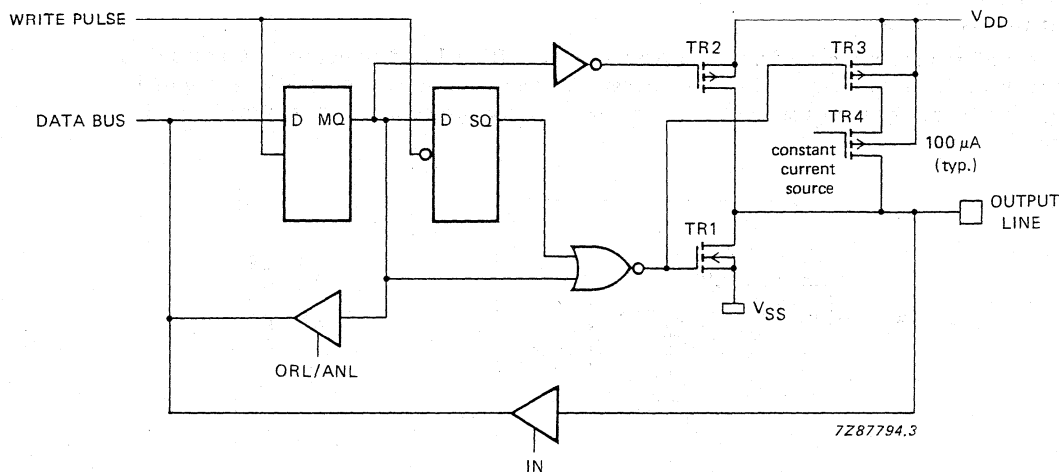

Fig. 12 Push-pull output.
- Option 3 —PUSH-PULL OUTPUT; drive capability of the output will be 2,5 mA (typ.) at  $V_{DD} = 3 \text{ V}$  in both polarities. To avoid a large current flowing through the output transistors during the input mode, these push-pull pins must be used only as outputs (Fig. 12).